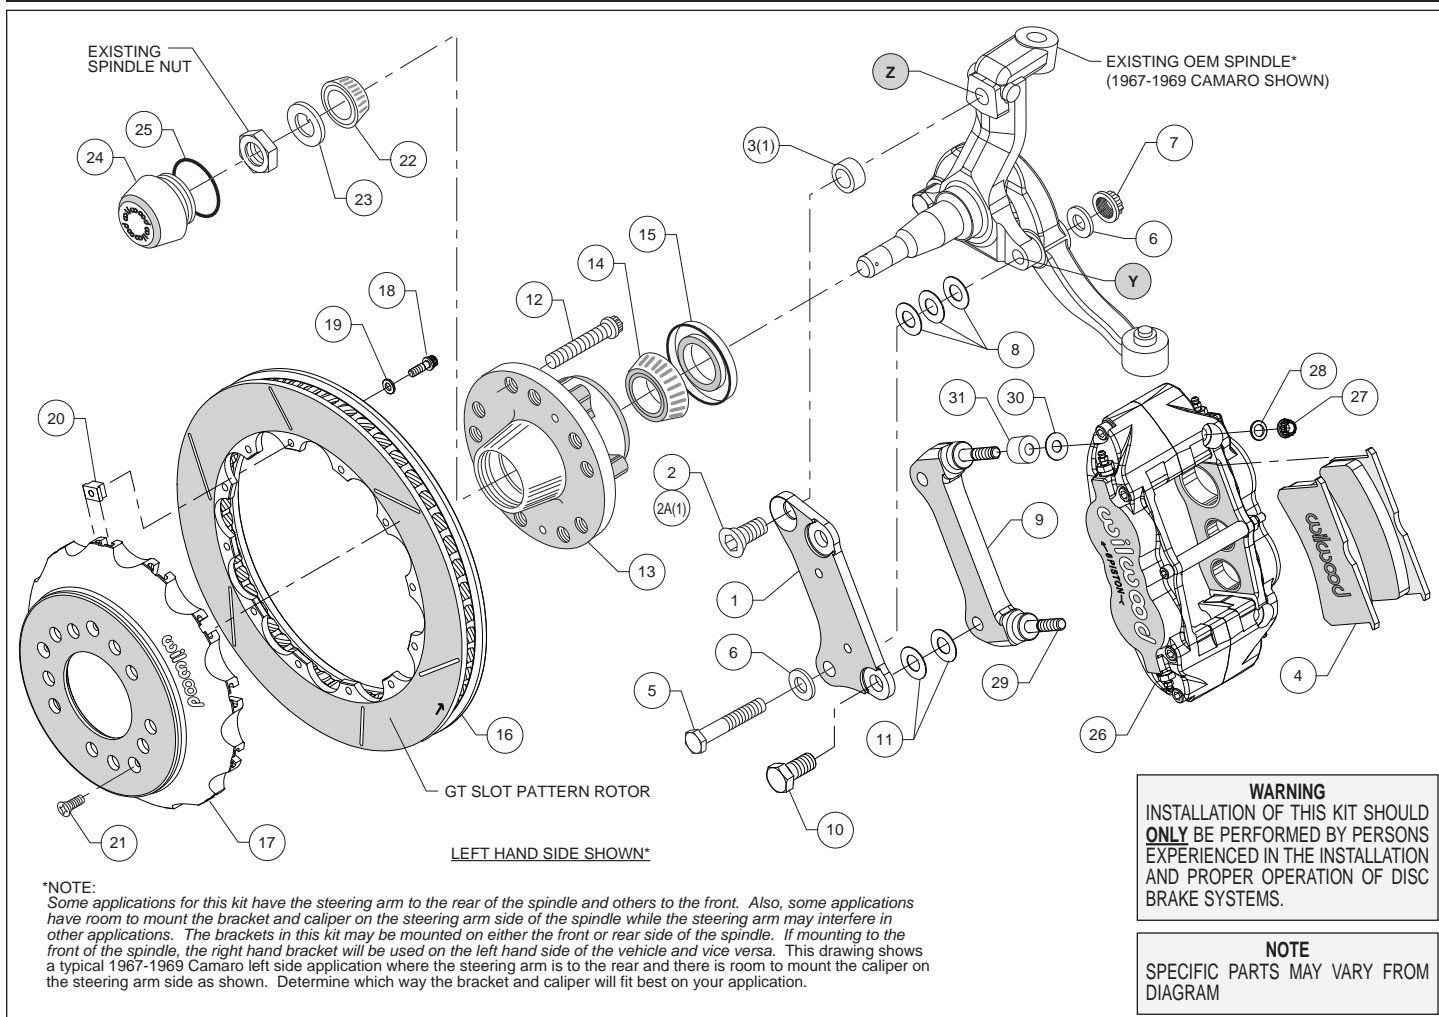
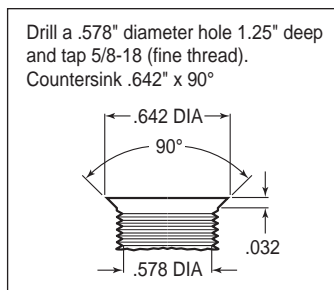
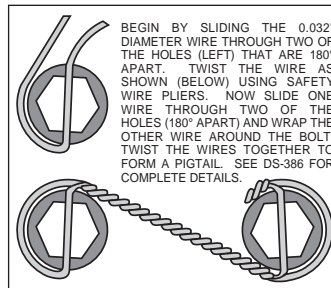

Figure 1. Typical Installation Configuration
Figure 3. Drill and Tap Detail
Figure 4. Safety Wire Diagram
Assembly Instructions (numbers in parenthesis refer to the parts list on the preceding page, and Figure 1):
•**NOTE:** Some applications for this kit have the steering arm to the rear of the spindle and others to the front. Also, some applications have room to mount the bracket and caliper on the steering arm side of the spindle while the steering arm may interfere in other applications. The brackets in this kit may be mounted on either the front or rear side of the spindle. If mounting to the front of the spindle, the right hand bracket will be used on the left hand side of the vehicle and vice versa. Figure 1 shows a typical 1967-1969 Camaro left side application where the steering arm is to the rear and there is room to mount the caliper on the steering arm side as shown. Determine which way the bracket and caliper will fit best on your application.
•**NOTE:** Some spindles in this year range may require the following modifications (reference Figure 1 and Figure 3): Top anchor pin hole (Z) must be drilled and tapped to the dimensions as outlined in Figure 3. The lower bolt hole (Y) in the spindle used to mount the new caliper bracket, and the mating steering arm hole, must be enlarged to .50" by drilling. It is recommended these modifications be performed by a qualified machinist.
•Install wheel studs (12) into the hub (13), Photo 1. Torque to 77 ft-lb. **NOTE:** There are two five lug patterns in the hub (5 x 4.50 and 5 x 4.75). Ensure the correct hub stud pattern is being used to fit the wheel application.
•Pack the large inner bearing cone (14) with high temperature disc brake bearing grease (available from your local auto parts store) and install into the backside of the hub (13).
•Install the grease seal (15) by pressing into the backside of the hub (13), Photo 2.
•Orient the rotor (16) and the hat (17) as shown in Figure 1 and Photo 3. Attach rotor to hat using bolts (18), washers (19), and t-nuts (20). Follow additional instructions included with the bolt kit. Using an alternating sequence, apply red *Loctite*® 271 to the threads, and torque to 120 in-lbs. Safety wire bolts using standard 0.032 inch diameter stainless steel safety wire as shown in Figure 4. Please refer to Wilwood's data sheet DS-386 (available at www.wilwood.com/Pdf/DataSheets/ds386.pdf) for complete safety wire installation instructions.
- Disc Brake Spindle Application Only:** Follow the instructions below, but instead use bolt (2A), and spacer (3) in the upper bolt hole location, Figure 1.
- Orient the flat bracket (1) as shown in Figure 1 and Photo 4, and install using bottom bolt (5), washers (6), and nut (7), Figure 1. Initially place three .032" thick shims (8) between the bracket and spindle. Install the upper bolt (2 or 2A). Temporarily tighten bolts. **NOTE:** The bracket must fit squarely against the mounting surfaces on the spindle. Inspect for interference from casting irregularities, machining ridges, burrs, etc. Temporarily install the new hub, hat and rotor assembly. Check that the bracket is aligned parallel to the rotor, Photo 5. If not, adjust by adding or subtracting shims (8) on the lower bolt between the bracket and spindle, Figure 1. Once the bracket alignment is correct, remove the upper bolt (2 or 2A), apply red *Loctite*[®] 271 to the bolt threads, and torque to 140 ft-lb. Torque the lower lock nut to 65 ft-lb.
- The radial mount caliper bracket (9) should initially be installed with clean, dry threads on the mounting bolts. Orient the bracket as shown in Figure 1 and Photo 6, and install using bolts (10). Initially place two .029 thick shims (11) on each bolt between the two brackets, Figure 1. Temporarily tighten the mounting bolts. Later, after the caliper alignment has been checked, the mount bolts will be secured using red *Loctite*[®] 271.
- Pack the small outer bearing cone (22) with high temperature disc brake bearing grease and install into hub (13). Final install the hub assembly onto the spindle. Secure using spindle washer (23) and OEM spindle nut, Photo 7. Adjust bearings per OEM specifications. Install saved OEM nut lock (if any) and a new cotter pin (not included).
- Screw dust cap (24) into hub (13). Friction created by the o-ring (25) on the dust cap keeps it from unscrewing. **NOTE:** The O.D. of the existing OEM spindle washer may be larger than the I.D. of the dust cap not allowing it to seat against the hub face. Therefore, use the spindle washer (23) supplied with the kit instead of the OEM washer.
- Final install the rotor (16 and 17) assembly onto the hub (13), taking care to align the small countersunk holes in the hat with the small threaded holes in the hub. **NOTE:** The hat must fit flush against the hub face or excessive rotor run out may result. Install three flat head screws (21) through the small holes in the hat (17), Photo 8, and torque to 85 in-lb.
- NOTE:** This kit contains distinct right and left hand calipers that must be mounted in a specific direction, as described below. Lubricate the caliper mounting studs (29) with lightweight oil. Initially place one .035" thick shim (30) and one spacer (31) on each stud between the caliper and the bracket, as shown in Figure 1 and Photo 9. Mount the caliper (26) onto the bracket (9) using lock nuts (27) and washers (28), Figure 1. Ensure that the caliper is mounted so the largest pistons are at the rotor exit end of the caliper, in relation to the direction of rotor rotation. Temporarily tighten the lock nuts. The rotor should be centered in the caliper, Photo 10. If not, adjust by adding or subtracting shims (11) between the flat bracket (1) and the caliper bracket (9). Always use the